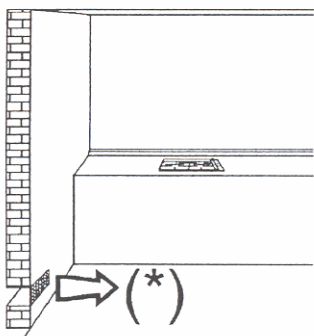
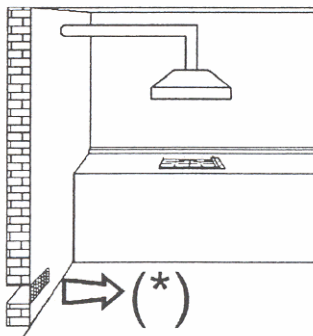
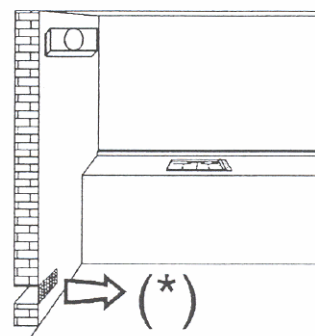

FIG. 3
FIG. 4
FIG. 5
*Use of a gas cooking appliance produces heat and moisture in the room in which it is installed. The room must therefore be well ventilated by keeping the natural air vents clear (fig. 3) and by activating the mechanical aeration device (suction hood or electric fan fig. 4 and fig. 5).*